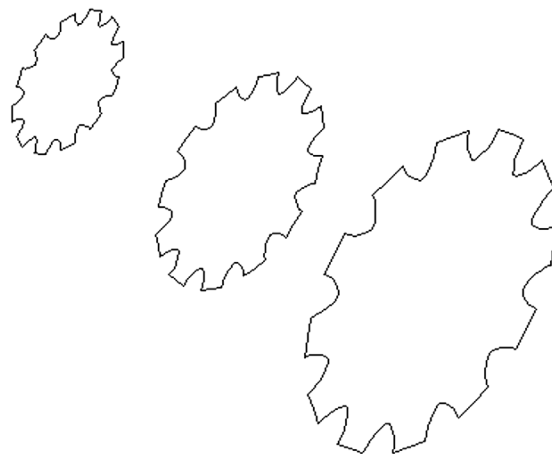

FIGURE 24.32 Drill bit, Step 4.
- Step 4.** Now, switch to the 3D SW Isometric view and separate the three profiles evenly in size order, as seen in Fig. 24.32. Be careful, you may have to 3Drotate all the profiles to get them to “stand upright.” Also, be sure to check the side profiles to make sure they are spaced evenly. Use Ortho, and when done, 3Dorbit around the profile to check that they are located just right.